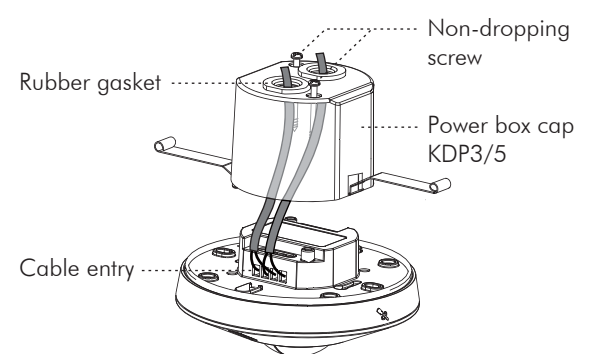

FIG.10
3.4.2.2 Use screwdriver to break the rubber gasket on KDP3/5, then feed cables through it (See FIG.10).